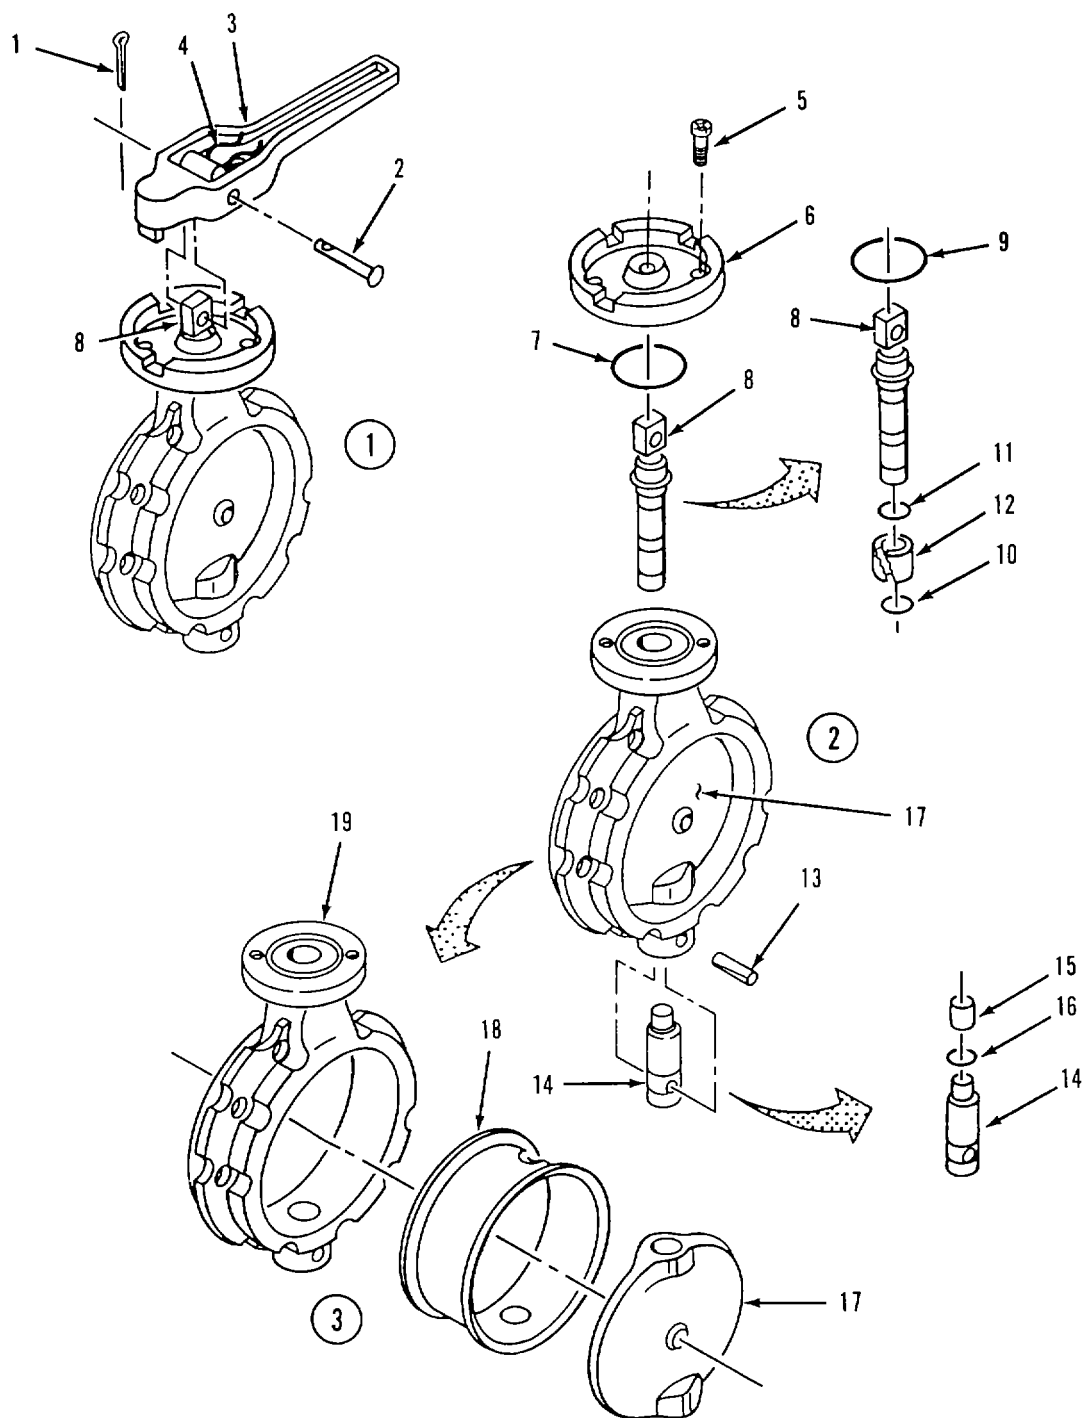

Figure 4-17. Butterfly Valve Repair.
Butterfly valve disassembly Refer to figure 4-17.
- (2) Inspect body (19, Figure 4-17), handle (3), disc (17) and stop plate (6) for cracks and corrosion.
- (3) Inspect top stem (8) and bottom stem (14) for cracks, deep scratches and corrosion.
Butterfly valve assembly Refer to figure 4-17.